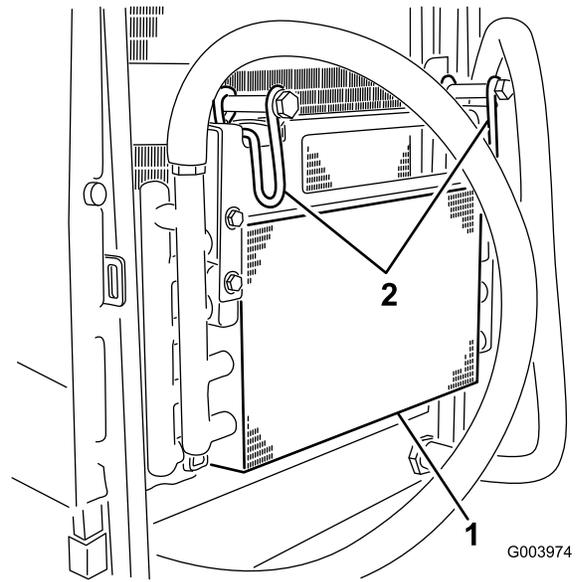

Figure 65
5. Pivot the latches inward to release the oil cooler (Figure 65).